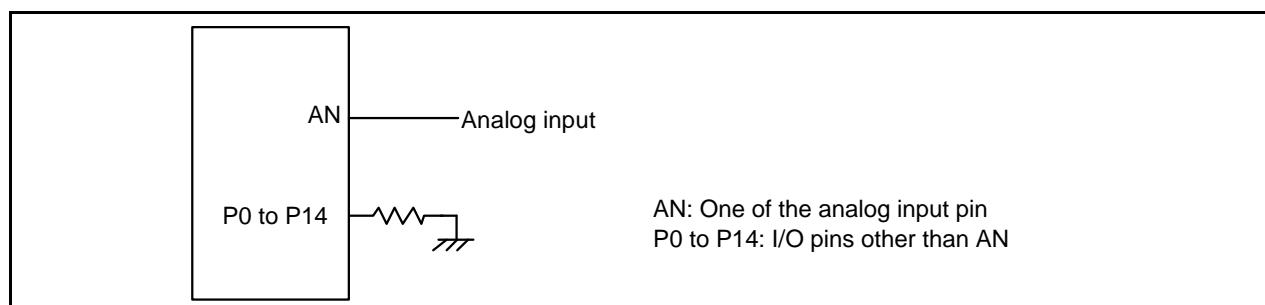

Figure 5.2 A/D Accuracy Measure Circuit
2. Flash memory rewrite disabled. Except for the analog input pin, set the pins to be measured as input ports and connect them to V_{SS} . See Figure 5.2 "A/D Accuracy Measure Circuit".